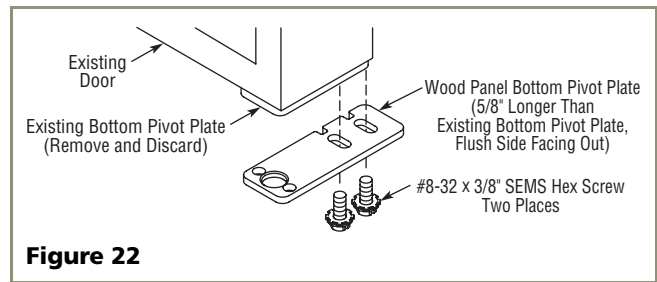

Figure 22
4. Remove the existing bottom pivot plate and replace with the Full Overlay pivot plate (see **Figure 22**).